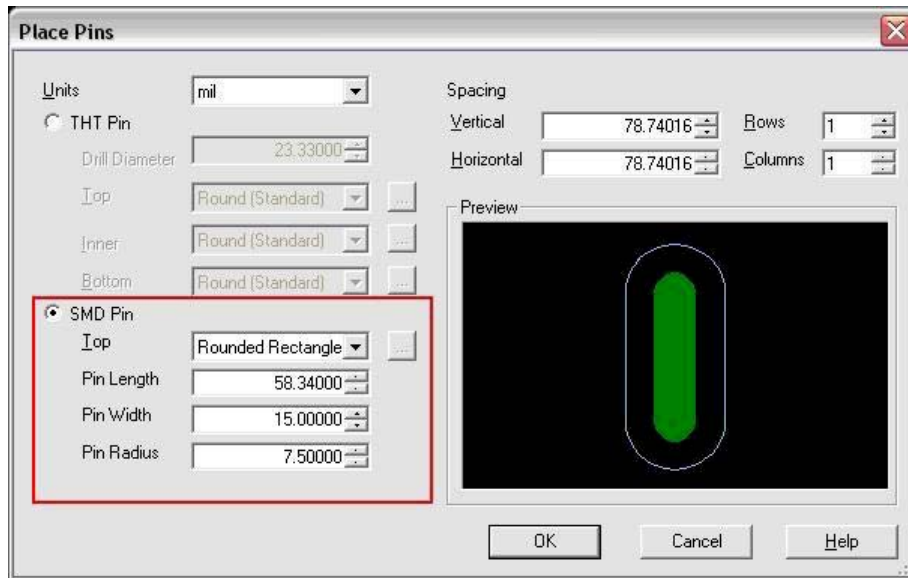

Figure 6 - Set SMD Pin Properties
b.) Select the SMD Pin radio button. The following values, such as Top, Pin Length, Pin Width and Pin Radius define the shape and physical dimension of the each pin. Set the following values in **Table 1** to define the pin properties (as in Figure 6);